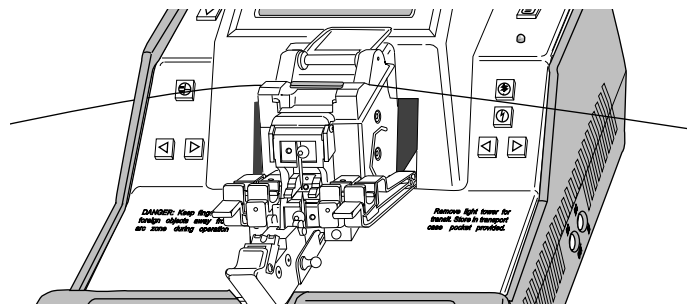

Figure 21
- f) Release the transfer arm clamps from the fiber and return the transfer arms to their positions beside the fiber coating clamps (Figure 21).